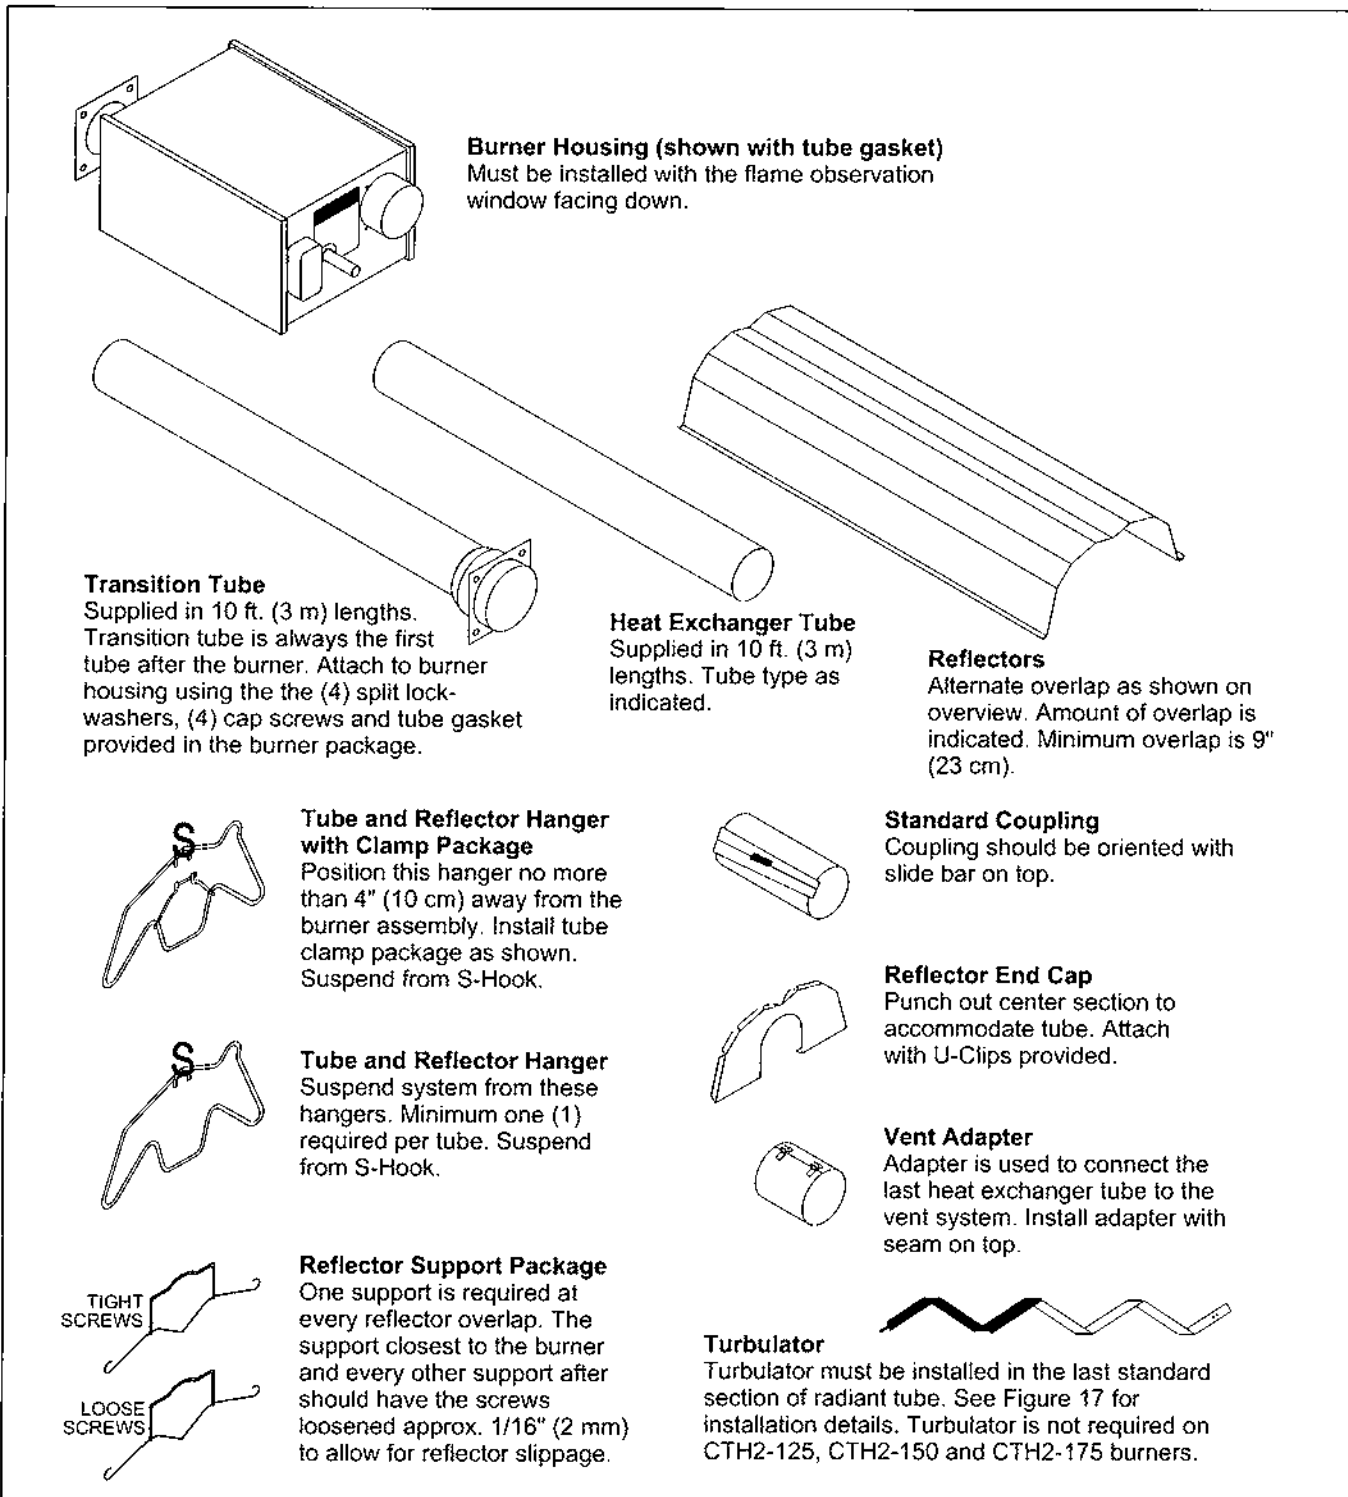
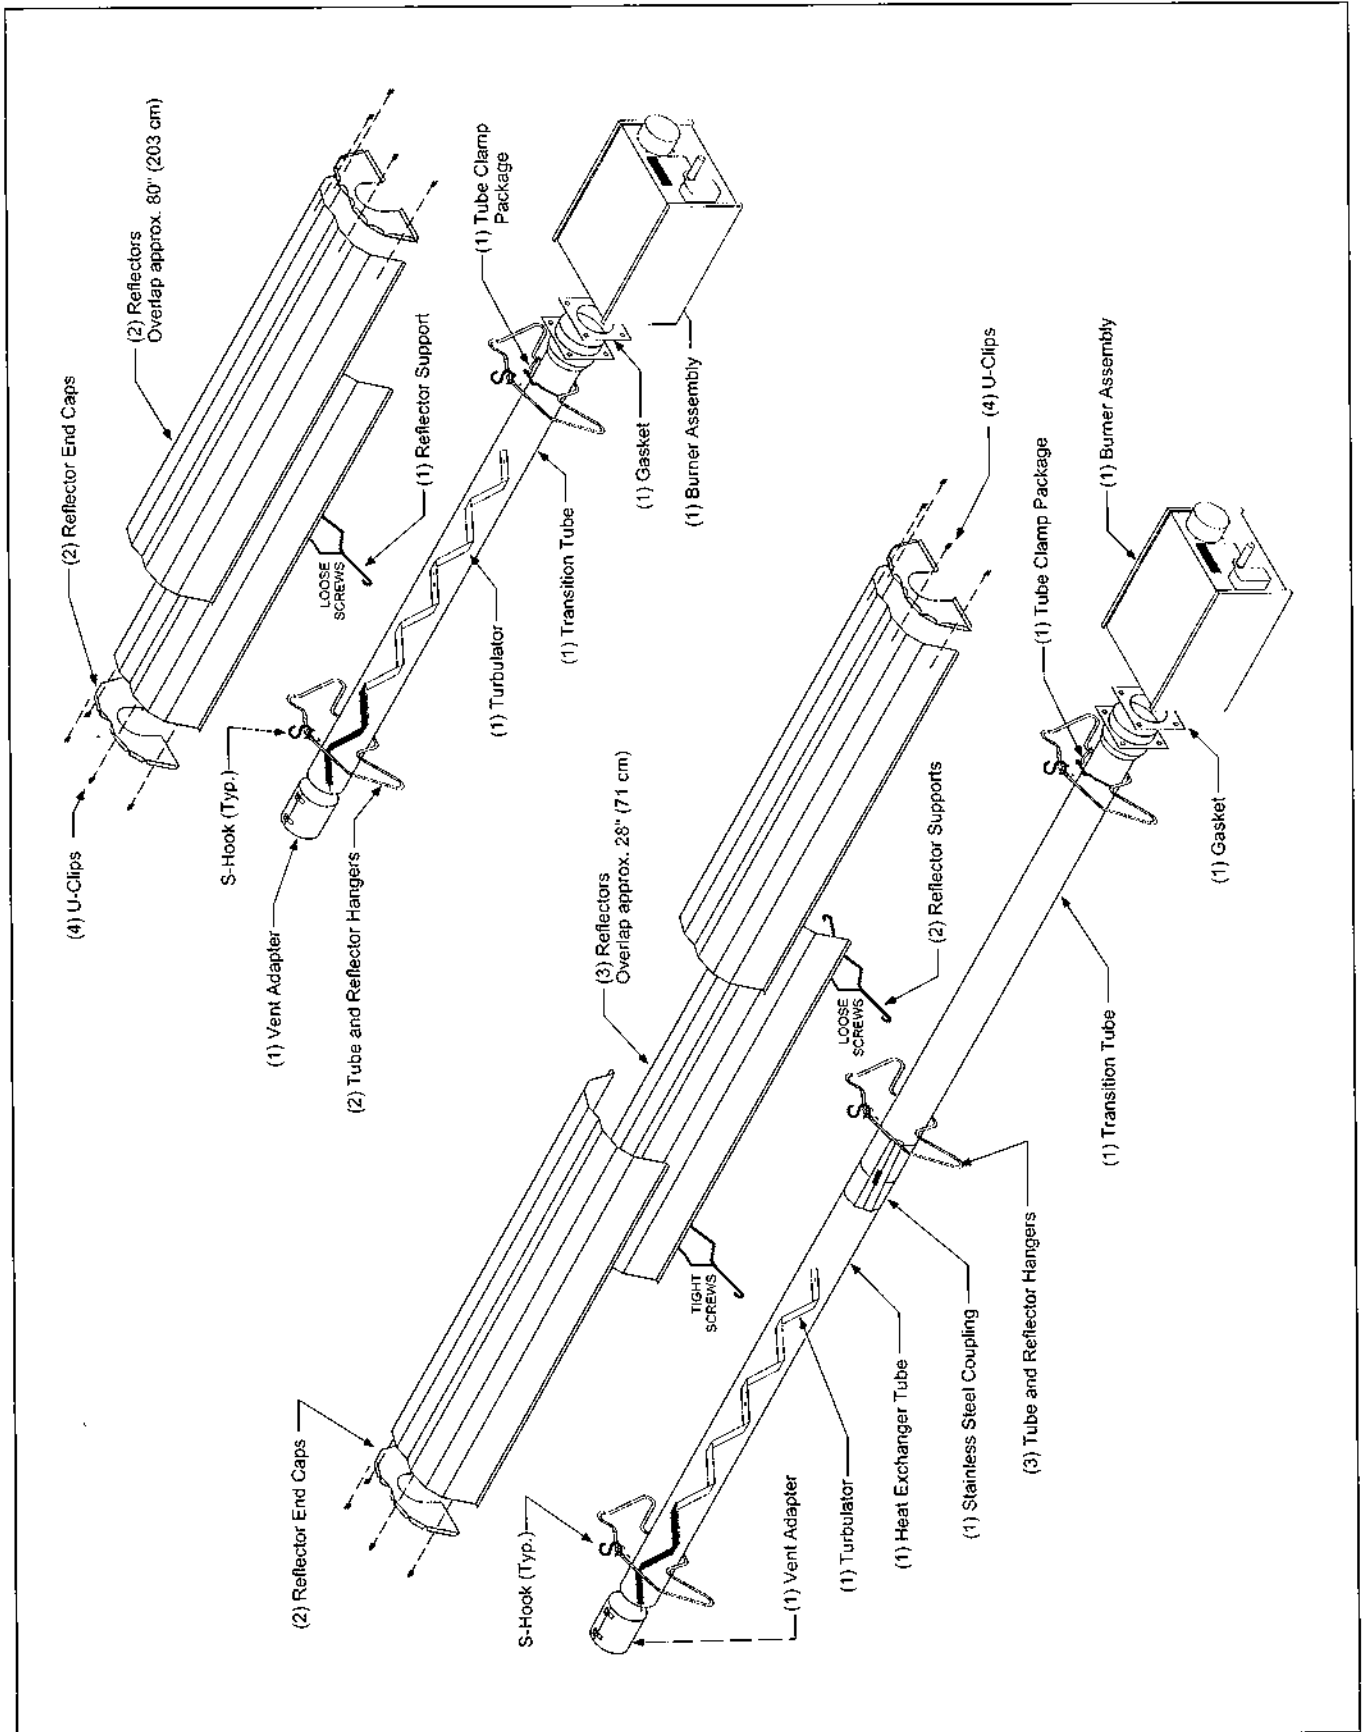

Figure 2. Assembly Overview
Figure 3. Assembly of 10 ft (3 m) Heat Exchanger System
Necessary packages for the various heaters are shown in Table 1 below. Components should be assembled as per Figures 2 through 19.
- 2) In some cases, VANTAGE® II heaters may be received with the accessory components non-cartoned, or packaged for a specific installation. In those cases, be sure to acquaint yourself with the individual components shown in Figure 2. Also follow carefully the appropriate diagram (Figures 3 through 8) for the heater you ordered. These indicate the quantity and location of all necessary components.
The figures in this section provide a general overview of component placement in a VANTAGE® II system. The location of some components such as supports and couplings is crucial to proper installation. Assemble the heater components as shown in Figures 3 through 8.